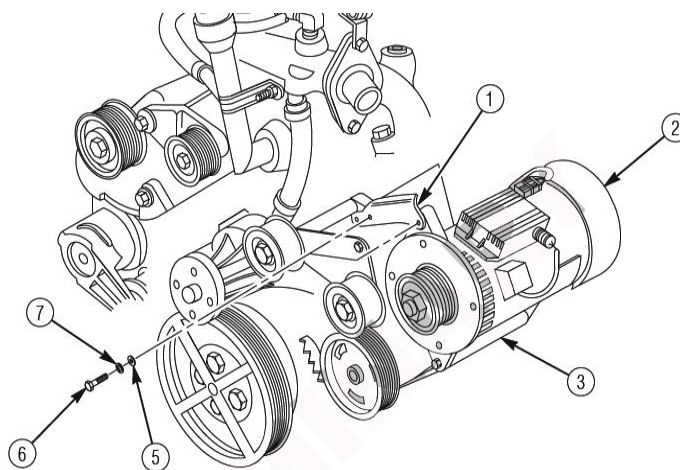

Figure 8
h. Removal of Alternator Adjusting Bracket. Refer to TM 9-2320-387-24-1, Chapter 2 and **Figure 8**.
(1) Remove two screws (6), lock washers (7), washers (5), and alternator adjusting bracket (1) from alternator (2) as shown below. Discard lock washers (7) and retain all other parts.